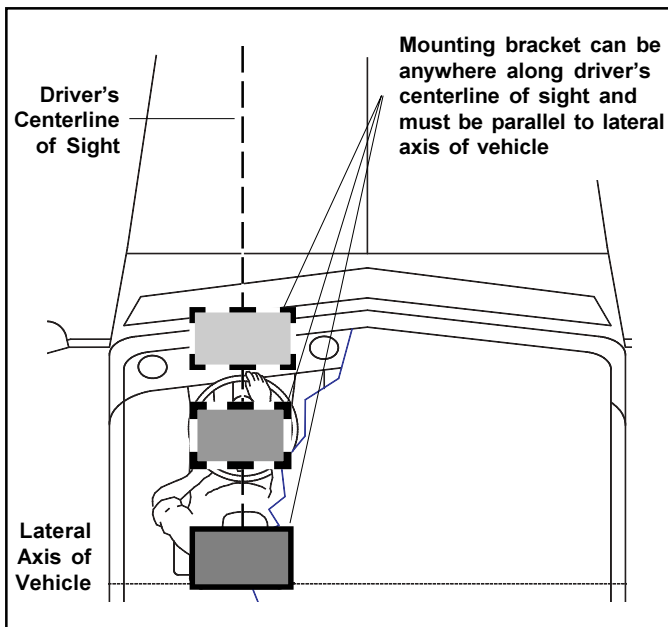

FIGURE 20 - MOUNTING BRACKET AND LATERAL AXIS OF VEHICLE
6. Place the new mounting bracket, making sure the bracket is parallel to the lateral axis of the vehicle (side to side). See Figure 20.